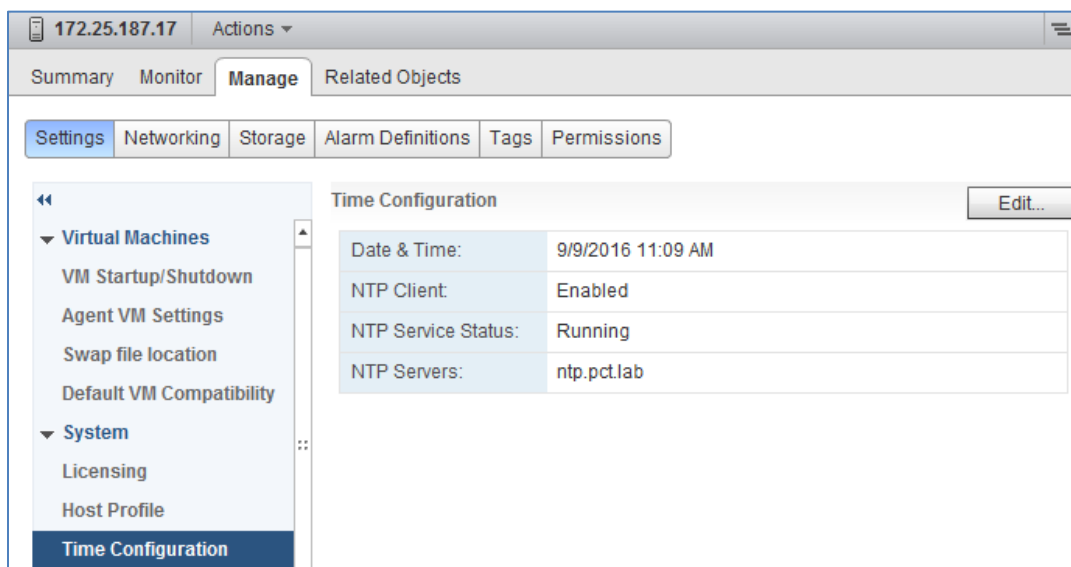

Figure 38 Proper NTP configuration on ESXi host
3. In the center pane, go to **Manage > Settings > Time Configuration**. If the information shown is correct (see Figure 38), skip to step 7. Otherwise, continue to step 4.
6. The **Time Configuration** page for the host should appear similar to Figure 38.